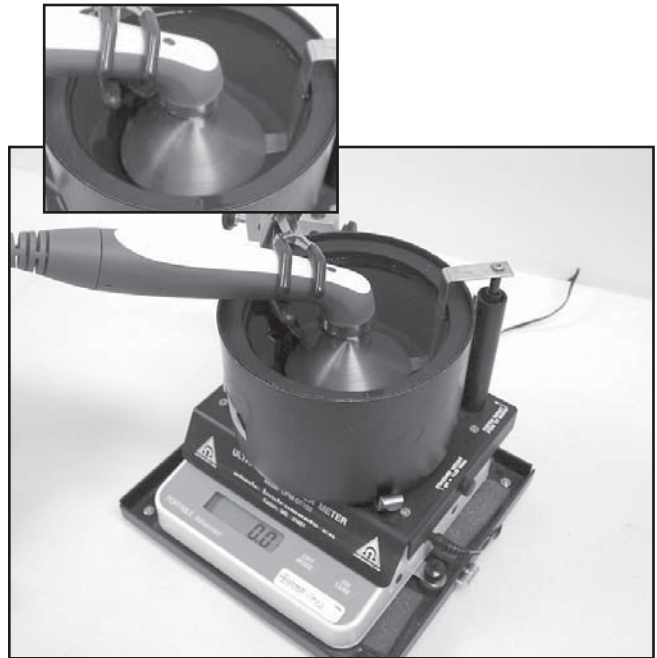

FIGURE 5.23
2. Place an Applicator into the Power Meter retainer. Make certain the Sound Head is completely submerged in the degassed water and centered directly over the Stainless Steel Cone. **See Figure 5.23.**